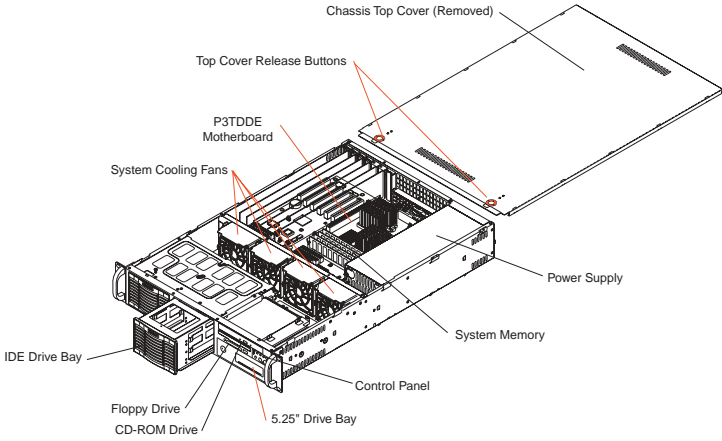

Figure 2-5. Accessing the Inside of the SuperServer 6021i (with one IDE drive bay removed)
1. Accessing the inside of the 6021i (see Figure 2-5):